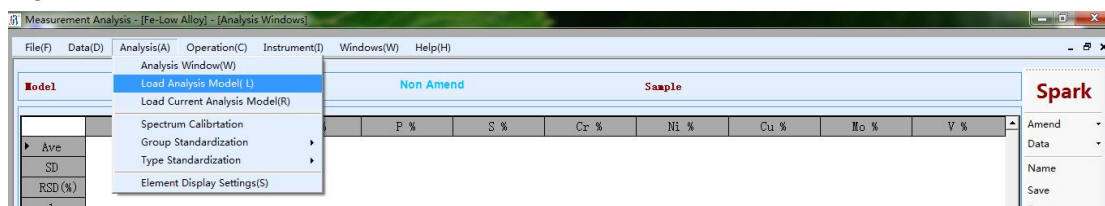

Figure 4-8 Curve call
Step 2 Click “Analysis”- “Load Analysis Model” in menu bar of the software, as shown in Figure 4-8: